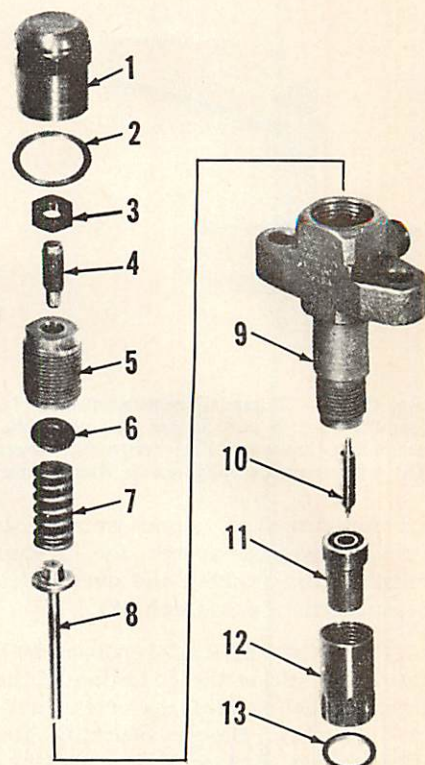

Fig. O84—Exploded view of C.A.V. throttling pintle type injector used on Series 1600 and 1650 diesel engines. Opening pressure is adjusted by screw (4).
If a straight, solid core of oil ejects from nozzle tip without undue pressure on tester handle, open valve to tester gage and remove cap nut (1—Fig. O84). Slowly depress the tester handle and observe the pressure at which the nozzle valve opens. If opening pressure is not approximately 1925 psi (new spring) or 1750 psi (used spring), loosen locknut (3) and turn adjusting screw (4) until opening pressure is 1925 psi when testing a new injector or an injector assembly in which a new spring has been installed, or 1750 psi when testing an injector with used spring.